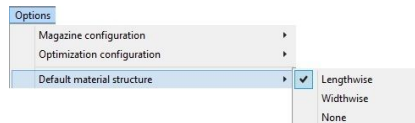

Fig. 35 – selection of default material structure
3) **‘Default material structure’** – allows to define the default material structure (Fig. 35).